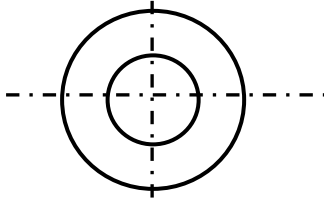

Figure 1
1. Identify the type of circles in figure 1 below.